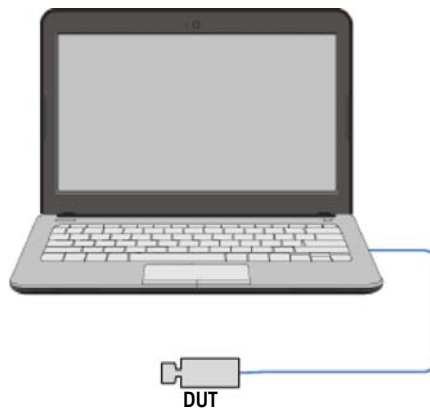
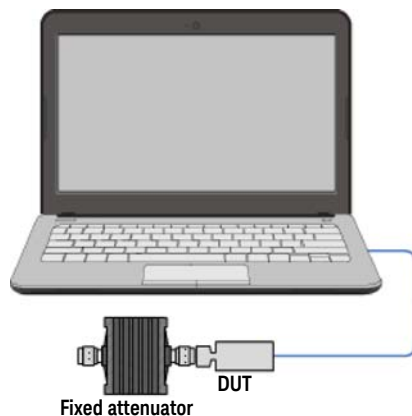

Figure 3-1 Equipment setup for zero set verification for U2000 Series models except U2000B and U2001B
Figure 3-2 Equipment setup for zero set verification for U2000B and U2001B
- 1 Connect the DUT to your PC as shown in Figure 3-1 (U2000 Series models except U2000B and U2001B) or Figure 3-2 (U2000B and U2001B models).